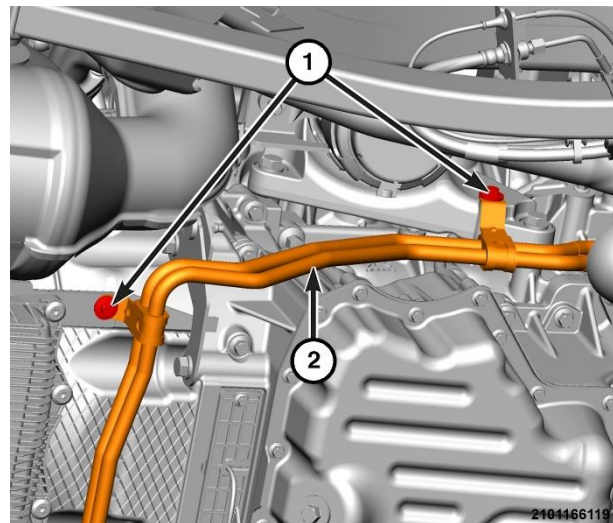

Figure 42 – Oil Cooler Pipes
54. Remove the fasteners (1) from the transmission oil cooler pipes (2) and position aside (Figure 42).
82. Position the transmission oil cooler lines. Install the fasteners and tighten to 9 N·m (80 In. Lbs.) (Figure 42).